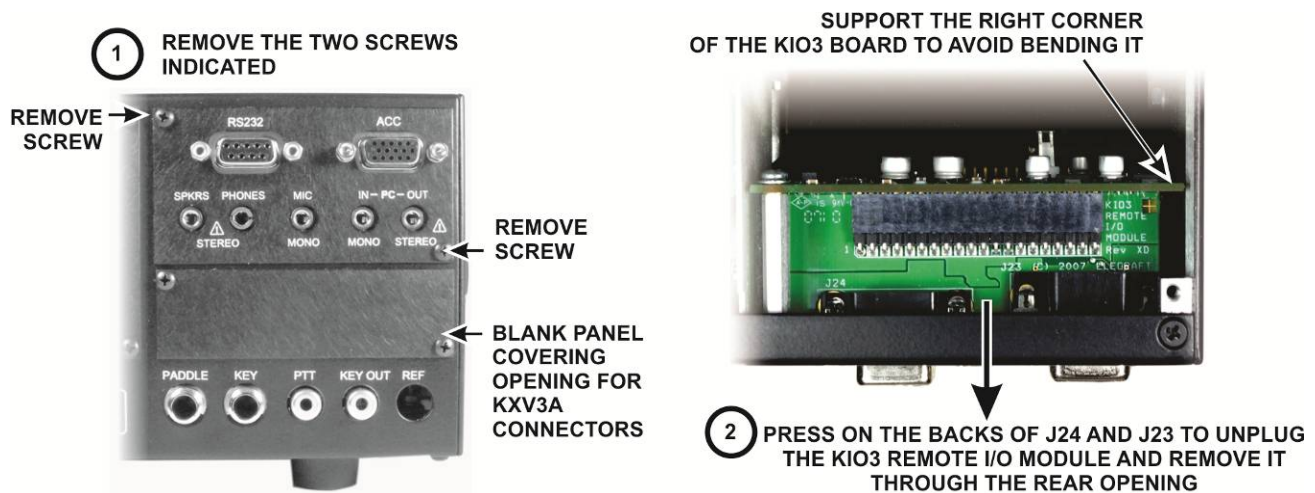

Figure 5. Removing the Digital I/O Module.
- ☐ Remove the Digital I/O module from the KIO3A or KIO3 Board at the rear of the K3 as shown in Figure 5.
- ☐ Remove the blank panel covering the space for the KXV3B module (see Figure 5). This panel will not be replaced.